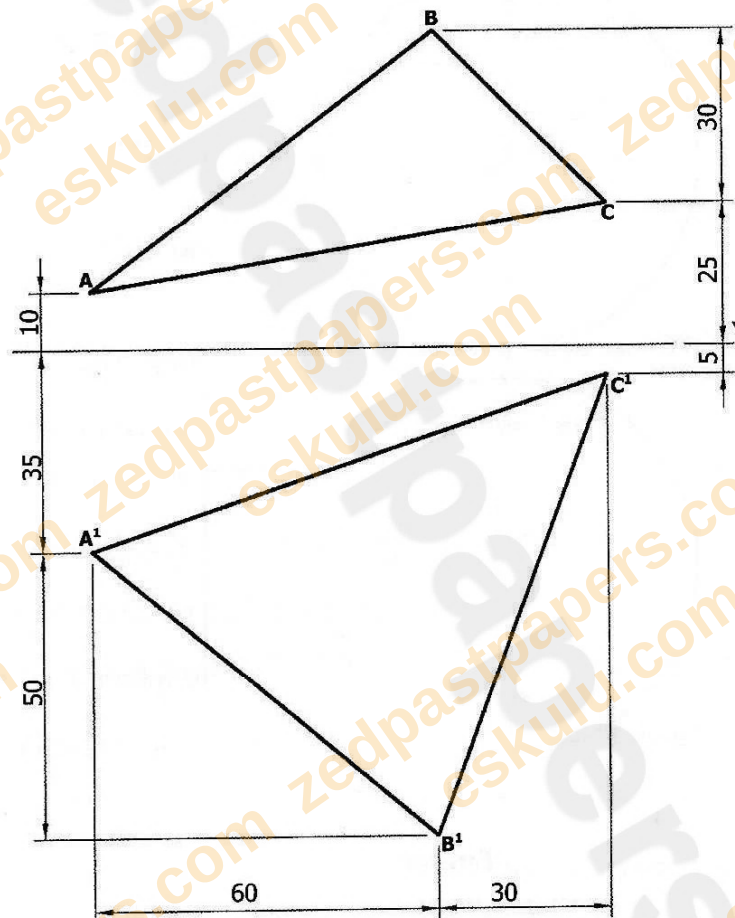

FIGURE 6
Two views of a Lamina are shown in **Figure 6** below in **First Angle Projection**.
Question 7. SECTION B, Q7 [20]. Figure 6 shows two views of a lamina ABC (elevation with heights 10/25/30mm above XY for A/C/B respectively; plan with depths 35/50mm and base divisions 60/30mm). (a) Draw the given views. (b) Determine the true angle of inclination to the vertical plane (VP). (c) Draw the true shape of the lamina.